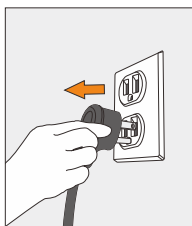

Figure 25
**External:** Disconnect power supply cord (Figure 25), use only mild dishwashing liquid or cleaning products and a soft cloth for cleaning the exterior surfaces (Figure 26 and Figure 27). **DO NOT** USE bleach or abrasive cleaners. Use a vacuum cleaner to remove dirt and lint from the condenser (Figure 28). The unit should be cleaned every 3 months, except where fingers touch the temperature selectors, which can be wiped often with hygienic wipes or mild cleaning products.